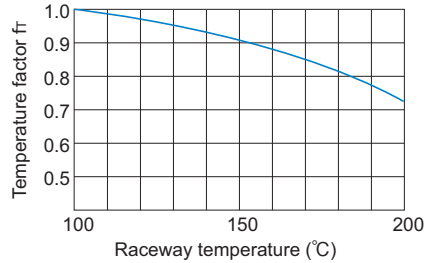

Fig.2 Temperature Factor (f_t)
- C : Basic dynamic load rating (N)
- P_C : Calculated load (N)
- f_T : Temperature factor (see Fig.2 on **B4-33**)
If the temperature of the environment surrounding the operating Linear Bushing exceeds 100°C, take into account the adverse effect of the high temperature and multiply the basic load ratings by the temperature factor indicated in Fig.2.